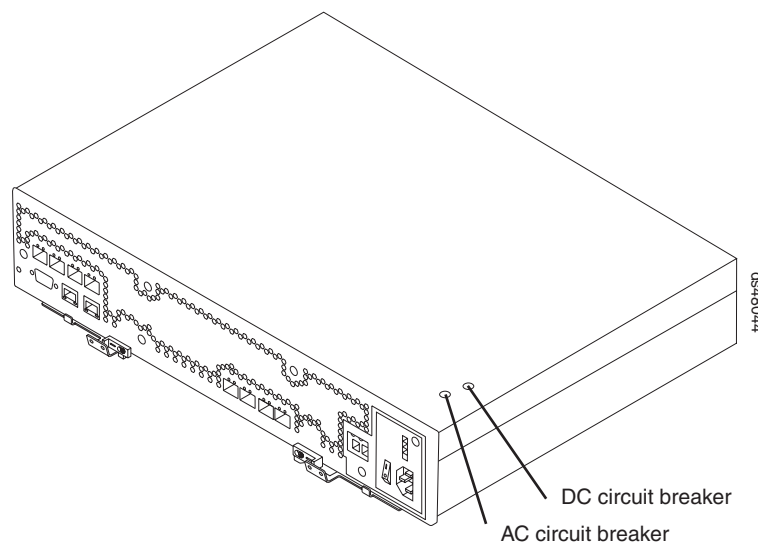

Figure 83. Circuit breaker access holes
8. Insert a nonconducting stylus through the appropriate hole in the cover of the controller and press down gently. One hole is over the ac circuit breaker, a second hole is over the dc circuit breaker. (DC is not currently supported for the DS4800.) Figure 83 shows the location of the circuit breaker access holes in the controller B cover.
Note: When controllers A and B are inserted in their respective controller slots in the DS4800, the location of the circuit breaker access holes are as follows. On controller A, the circuit breaker access holes are located on the left side on the bottom of the controller. On controller B, the circuit breaker access holes are located on the right side on the top of the controller (as shown in Figure 83).